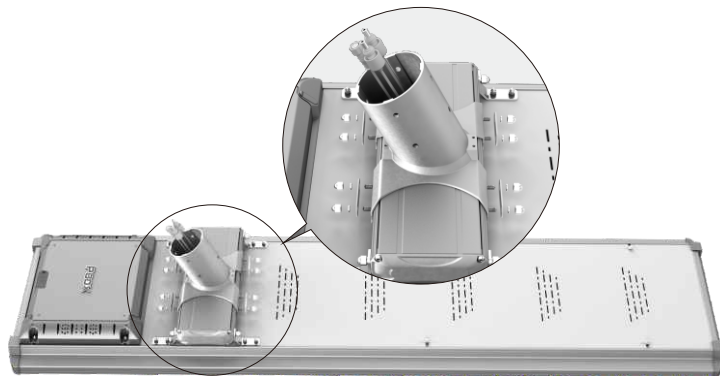

Figure 2
- 1 **Install X bracket:** Fix the bracket to the bracket support with the 8 screws buckles, M6 spring washers, and M6 cap nuts. (See Figure 2)